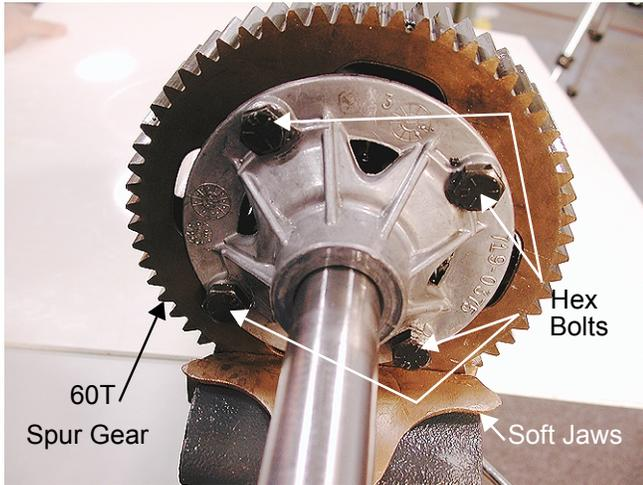

Figure 21
25. Secure the 60T spur gear in a soft jawed vice. See Figure 21.